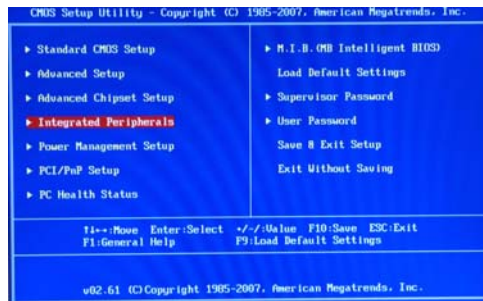

Figure 1.1 BIOS CMOS Setup Utility Main Window
- 2 Use the arrow keys to select Integrated Peripherals (see Figure 1.1), then press Enter.